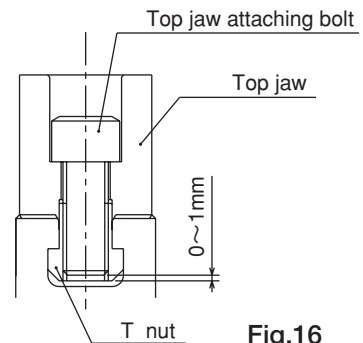

Fig.16
- If the screw-in depth of the jaw attaching bolt to the T nut is shallow, the T nut will break, and this is dangerous as the jaw and work will fly out. If the attaching bolt is too long and comes out from the bottom of the T nut as well, this is dangerous as the jaw and work will fly out since the top jaw is not fixed. Therefore, the overall length of the jaw attaching bolt must be approximately 0 to -1mm from the bottom of the T nut (Refer to Fig.16).